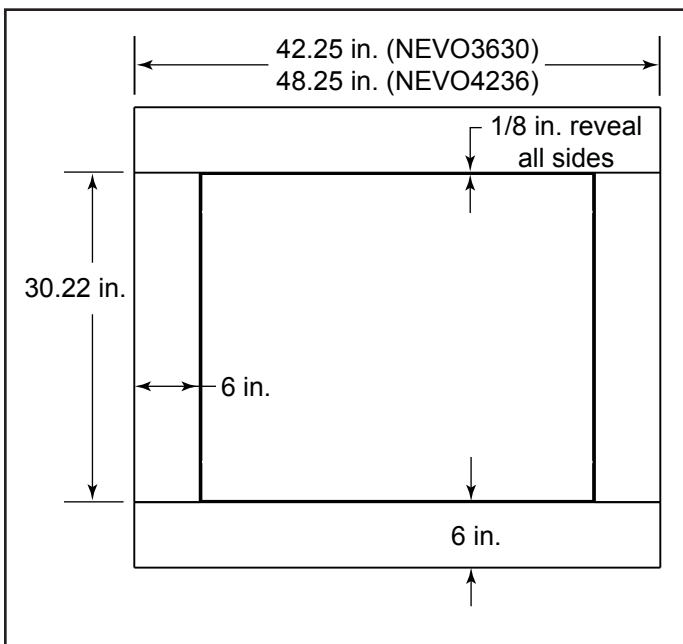

Figure 10.1 Marble/Granite Cut Dimensions
- Seal joints between the finished wall and appliance top and sides using a 300 °F minimum sealant. Refer to Figure 10.1.
- Figure 10.1 shows the dimensions for cutting marble/granite if the optional Finishing Trim is not used.